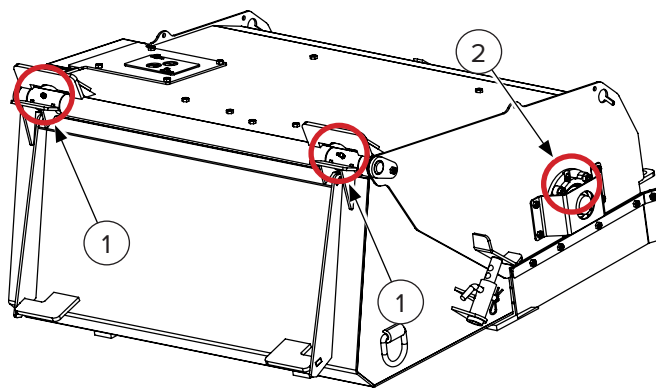

Figure 3
The broom hood pivot points are located on the back of the bucket towards the top (see Figure 3, Item 1). There is one (1) on each side.
These are two bearings, one on each side of the Mini Pickup Broom (see Figure 3, Item 2), that need to be greased.